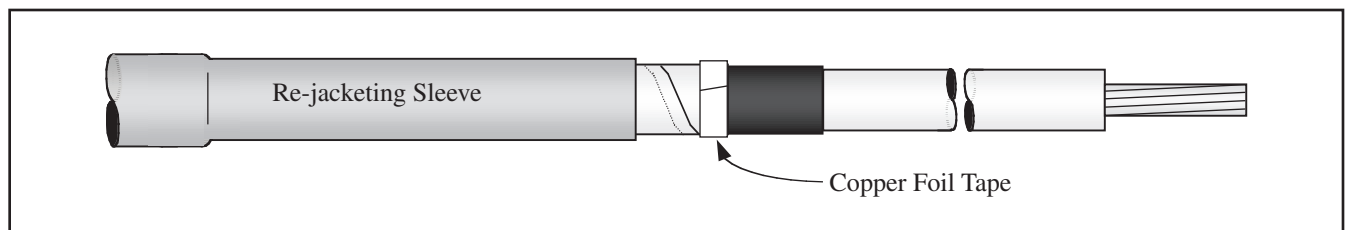

Figure 11
- 4.2 Secure cable copper tape shield ends with copper foil tape (*Figure 11*).